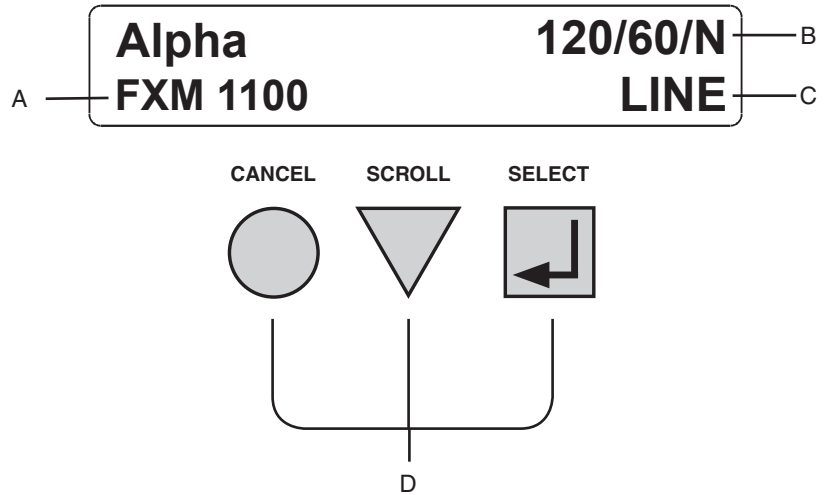

Figure 7.1 – LCD Control Panel (Logo Screen shown)
The LCD control panel provides “at a glance” monitoring. This panel, when used along with the **CANCEL**, **SCROLL** and **SELECT** buttons below it, lets you program, make measurements and troubleshoot the FXM. The layout is shown in Figure 7.1 below.
1. From the logo screen (See Figure 7.1) go to the Control Menu (See Figure 7.3).